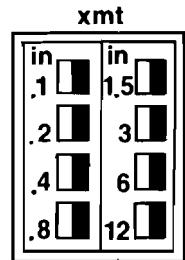

figure 5.
3.09 Levels. Switch *S3* conditions the transmit channel amplifier to provide either flat gain or loss. If gain is required, set *S3* to the *GA/IN* position. If loss is required, set *S3* to the *LOSS* position. The precise amount of gain or loss is selected via the front-panel *xmt* level DIP switches. The amount of gain or loss provided by each switch position appears on the front panel of the module adjacent to each switch position (see figure 5). These values are additive; thus, the amount of gain or loss selected is the sum of those switch positions set to *IN*.